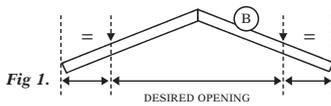

Fig 1.
1. The arch opening is not a fixed dimension; therefore you must decide the size you require before starting any assembly work. Mark the points at which the roof will be fixed to the side sections, to achieve the opening dimension chosen (see Fig.1).